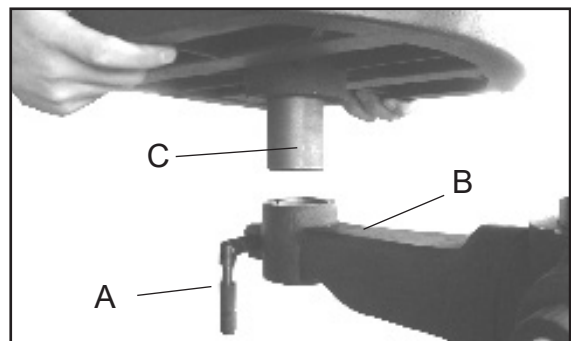

Figure 14
3. If not pre-installed at the factory, install the small Locking Lever (#7A, Figure 14, A) onto the front joint of the Table Support Bracket (#9A, B). (Figure 14).
4. Insert the table post (C) into the table support bracket (B) as shown in Figure 14. Tighten the locking lever (A) to secure the table in position.